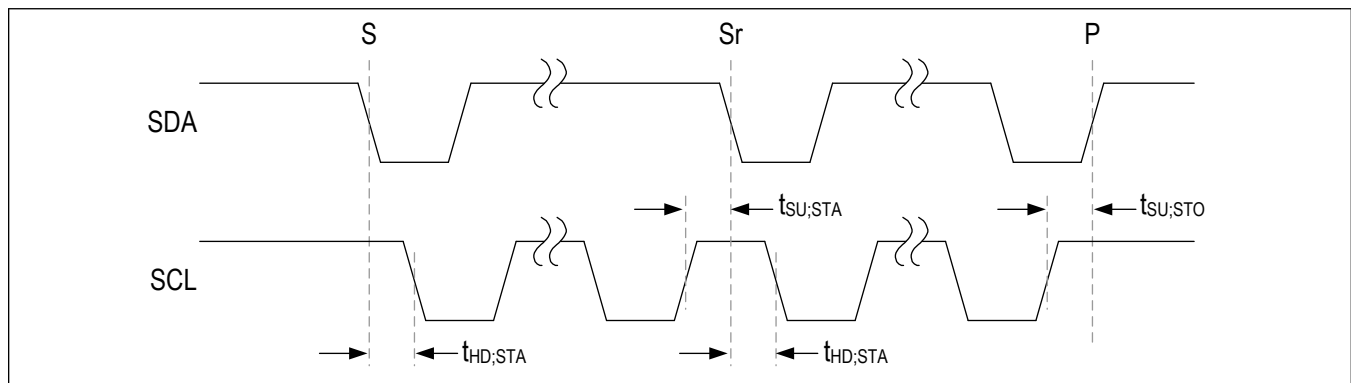

Figure 1. I2C Timing Diagram
The MAX20499 features an I2C, 2-wire serial interface that consists of a serial-data line (SDA) and a serial-clock line (SCL). SDA and SCL facilitate communication between the MAX20499 and the controller at clock rates up to 1MHz. The controller, typically a microcontroller, generates SCL and initiates data transfer on the bus. Figure 1 shows the 2-wire interface timing diagram.
A controller device initiates communication by issuing a START condition. A START condition is a high-to-low transition on SDA with SCL high. A STOP condition is a low-to-high transition on SDA while SCL is high (see Figure 1). A START (S) condition from the controller signals the beginning of a transmission to the MAX20499. The controller terminates